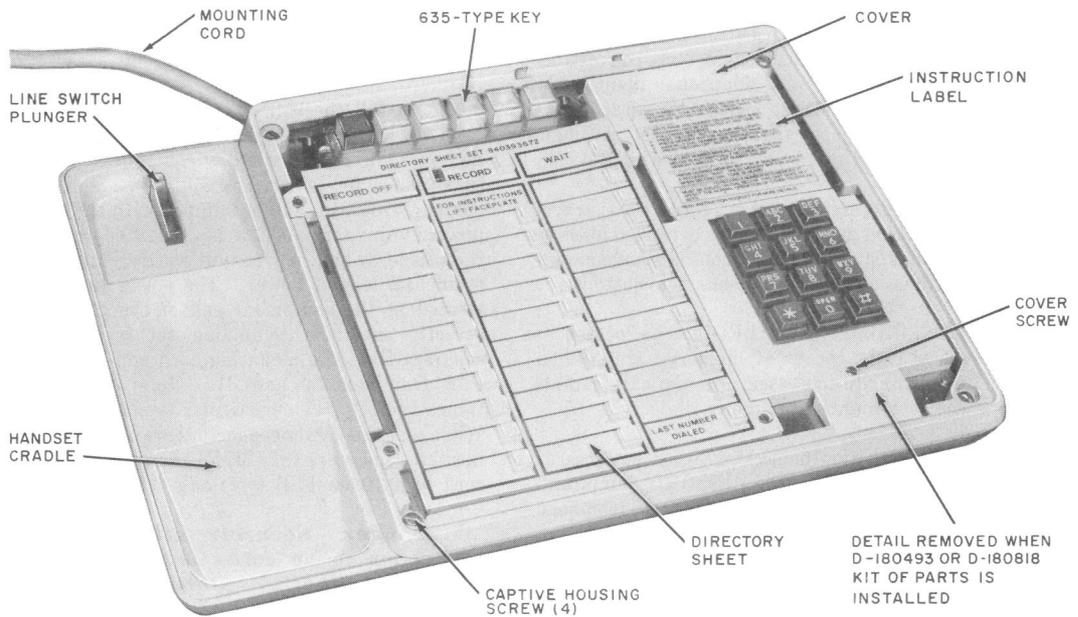

Fig. 2—2872A2M Telephone Set—Faceplate and Handset Removed
**2.07 Operating Features (Fig. 2):**
**3.05** The directory sheets (Fig. 2) fit over the buttons of the memory and are held in place by the faceplate. Additional sheets are available in the directory sheet set, 840393672.
- (5) Make connections per Table C, E, or F.
- (6) Break off the detail at the bottom of the cover (Fig. 2) and trim edge as required.
- (7) Verify correct operation of the option.
- (8) Reassemble set.